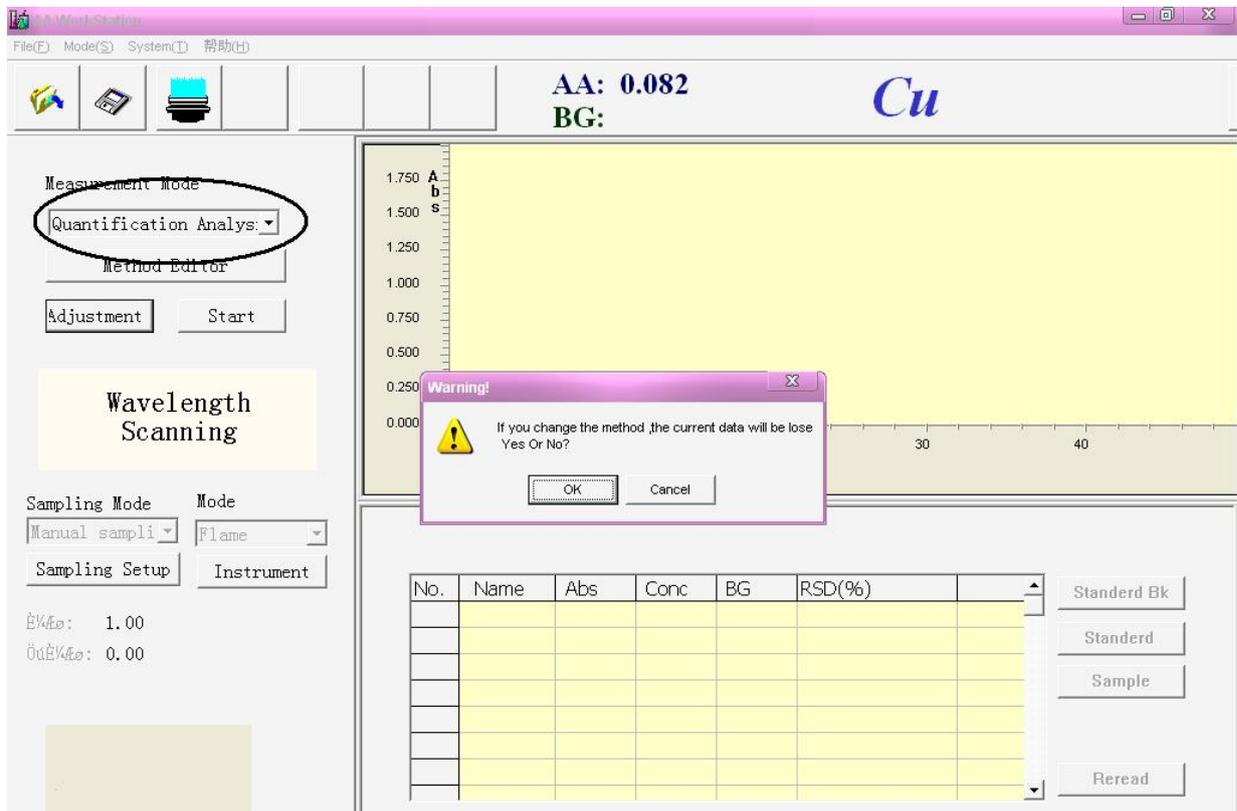

Figure 5-7
4. Figure 5-7, select the "quantification analysis" from the "Measurement Mode", then, press **【OK】**